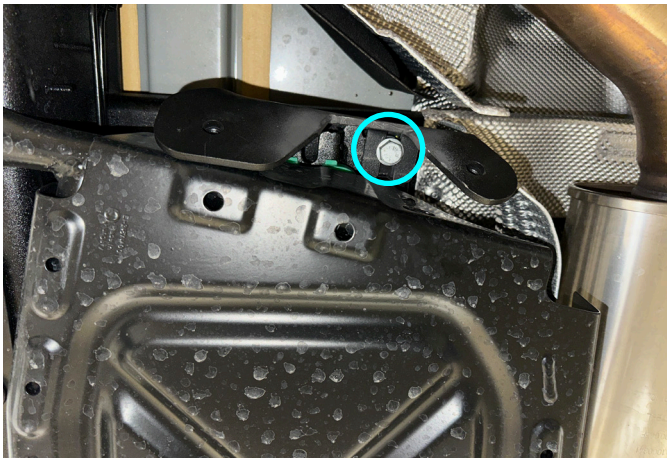

Fig. 3
3. Install the front bracket (item 2) by sliding it over the previously loosened bolt and loosely secure the factory bolt as shown in fig.3.